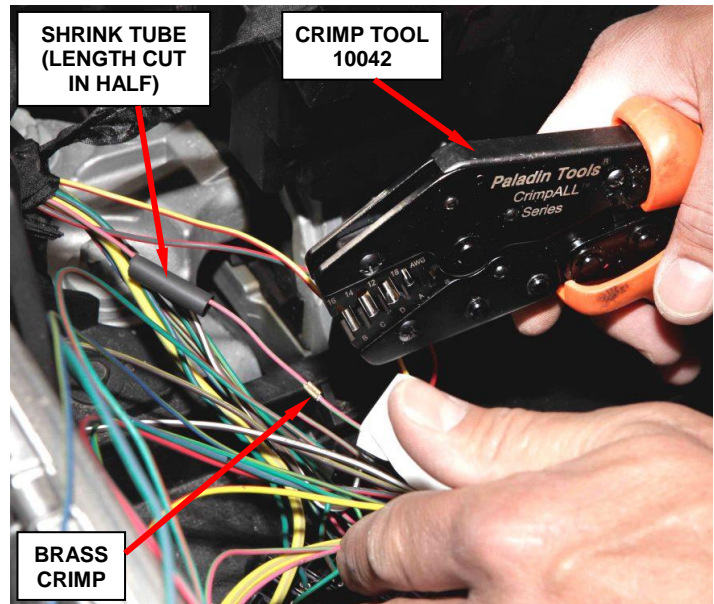

Figure 12 – Splice Wires and Band Clamp
- b. Place the black shrink tube provided in the repair kit over the cut wires (Figure 12).
- c. Using the supplied splice band clamps and crimp tool 10042, crimp the wires that had the insulation stripped on the wire harness side to the matching color wire (Figure 12).